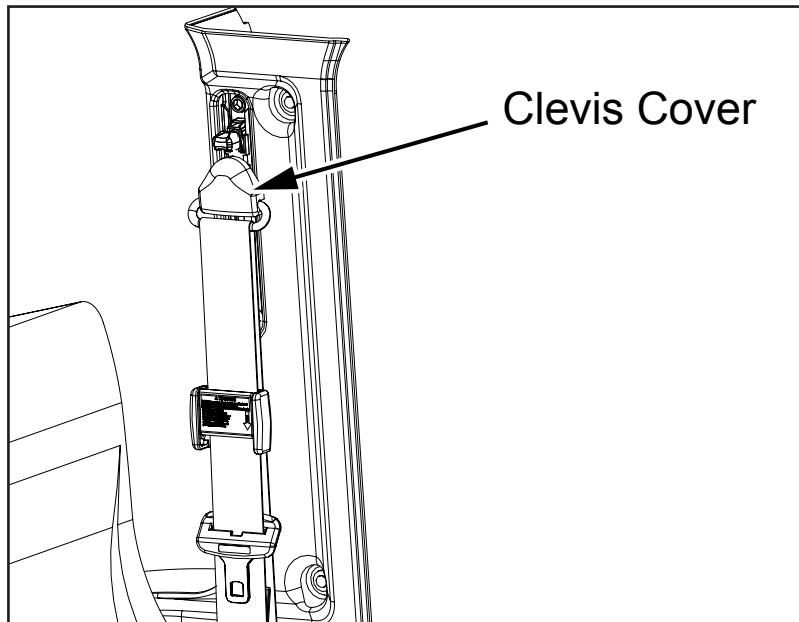

Figure 11
12. Remove the clevis cover. Repeat step 12 for the opposite side (see *Figure 11*).